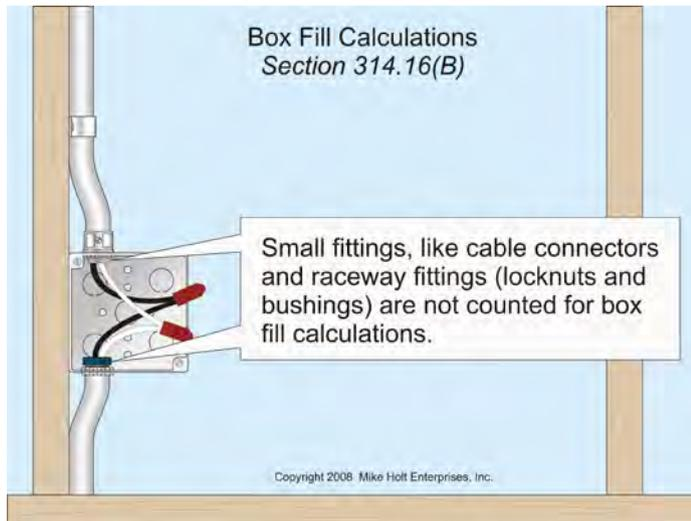

Figure 314-2
(B) Box Fill Calculations. The calculated conductor volume determined by (1) through (5) and Table 314.16(B) are added together to determine the total volume of the conductors, devices, and fittings. Raceway and cable fittings, including locknuts and bushings, are not counted for box fill calculations. **Figure 314-2**